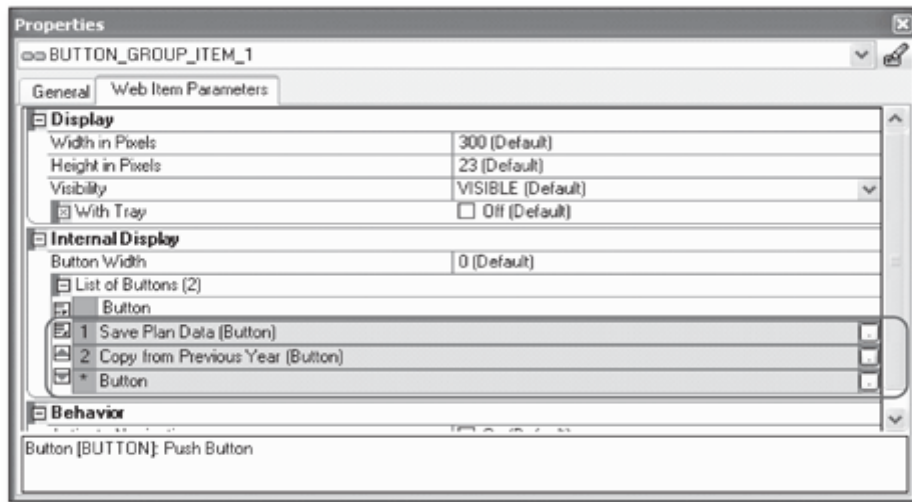

Figure 12.102 Button Group Properties
16. You can see both the defined commands visible in the button group properties screen (refer Figure 12.102).